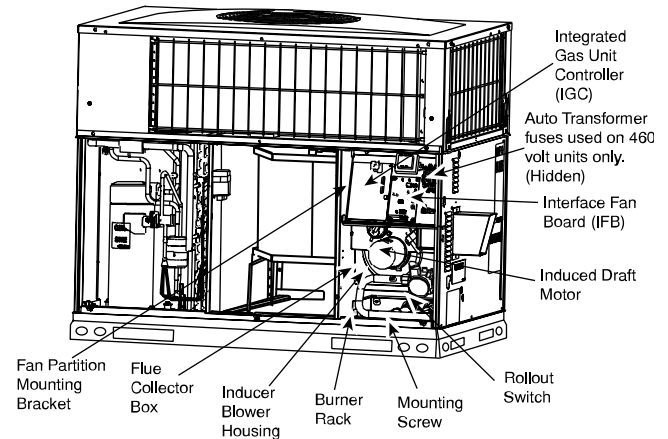
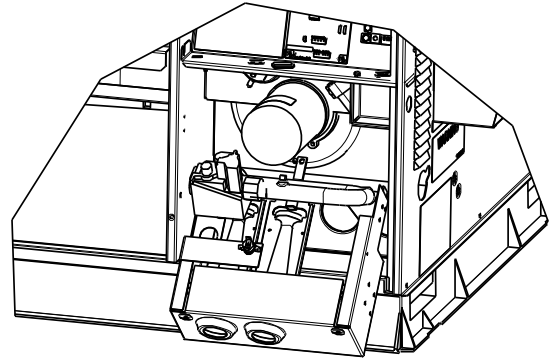

Fig. 38 – Blower Housing and Flue Collector Box
Fig. 41 – Burner Rack Removed (Standard and Standard Low NOx Models Only)
3. Slide the assembly out of the unit. (See Fig. 41). Clean the blower wheel. If additional cleaning is required, continue with Steps 4 and 5.
2. Remove the 11 screws holding the flue collector box cover (See Fig. 38) to the heat exchanger assembly. Inspect the heat exchangers.
Unit is equipped with a direct spark ignition 100 percent lockout system. Ignition module (IGC) is located in the control box (See Fig. 38). Module contains a self-diagnostic LED. During servicing, refer to label diagram or Table 12 in these instructions for LED interpretation.
5. Remove fan partition mounting bracket (2 screws located on the left side of control compartment on the fan partition panel). Slide bracket forward, bottom first, to remove. (See Fig. 38.)
7. Remove the mounting screw that attaches the burner rack to the unit base (See Fig. 38).
8. Partially slide the burner rack out of the unit (see Fig. 38 and Fig. 41). Remove ignitor and sensor wires at the burner assembly. Remove wires to rollout switch.
9. Slide the burner rack out of the unit (See Fig. 38 and Fig. 41).